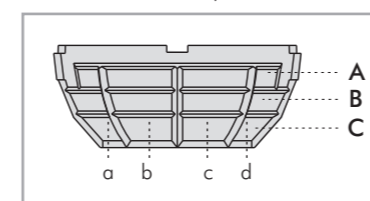

FIG. 21
- 4.6.1 Lens shield consists of three layers (See FIG. 21), each layer is divided into four small units, and the unit can mask an angle of approx. 50°. When mounting the detector at the height of 1.2m - 1.5m, the detection range is: